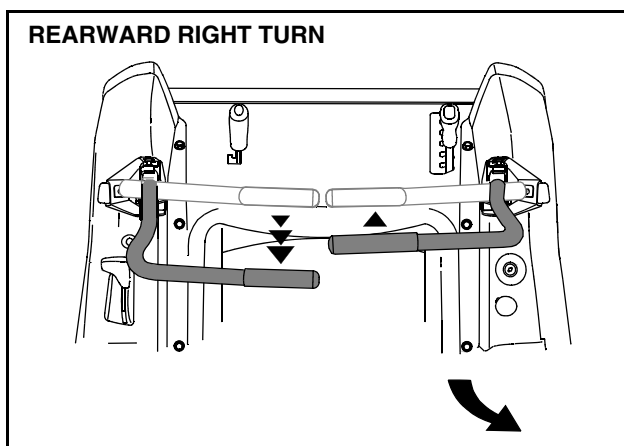

Figure 17
- To turn to the right while traveling in reverse, move the right drive control lever forward of the left lever. See Figure 17.